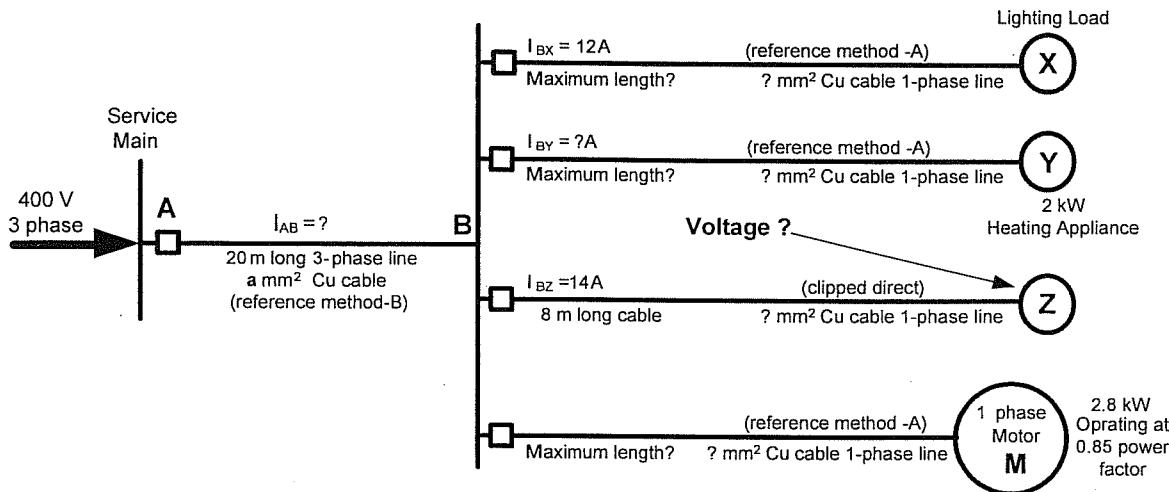

Figure Q4
4. Conceptual single line diagram of a certain installation is as shown in Figure Q4.
A 3-phase service main of “a” mm^2 and a length of 20 meter supplies a symmetrical 3 sets of identical X, Y, Z & 1-phase motor loads connected to 3-phases emanating from bus-bar B (only a single set of loads connected to one phase is shown in figure Q4 for clarity and simplicity). Permissible voltage drop allowed from A to each destination of load is 2.5%.